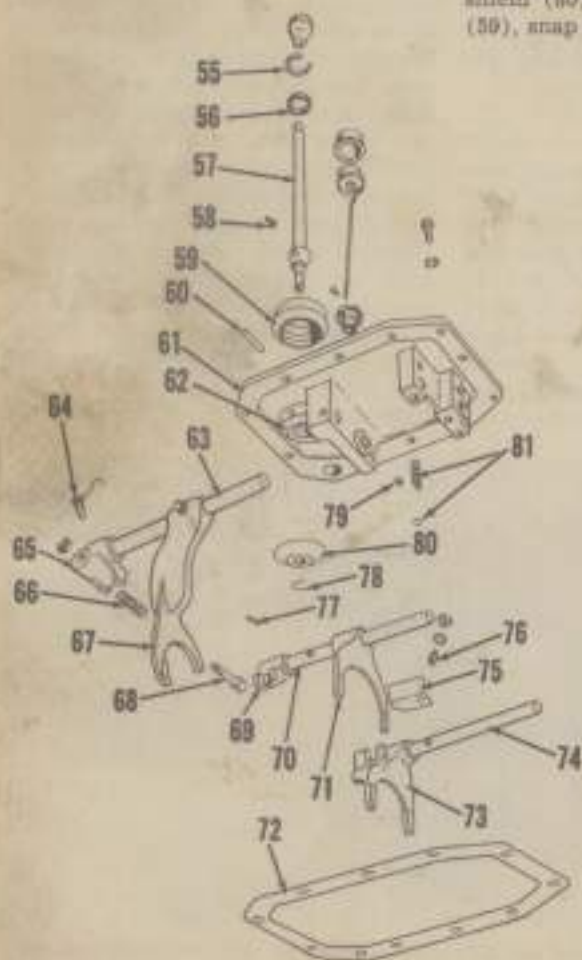

Fig. 119—Exploded view of the Allis-Chalmers D-17 transmission shifter assembly.
To remove gear shift lever, remove snap ring (78—Fig. 119) and oil shield (80); then, remove dust cover (59), snap ring (55) and pivot washer